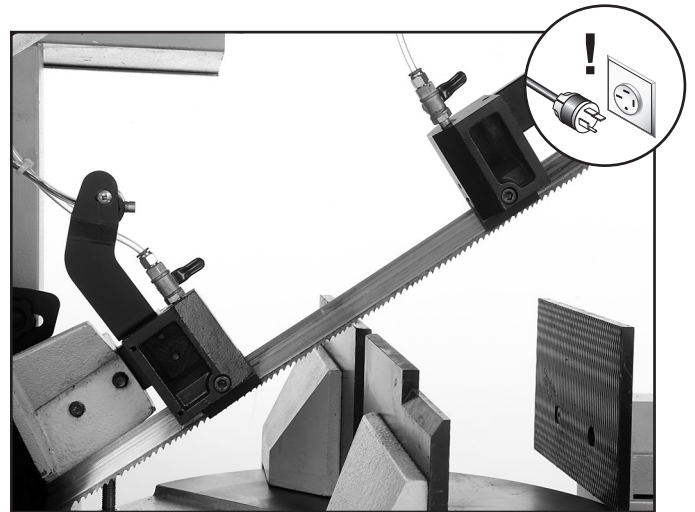

Figure 50. Guards and wire brush wheel removed.
5. Remove both of the blade guide guards and the wheel brush from the bandsaw (**Figure 50**).